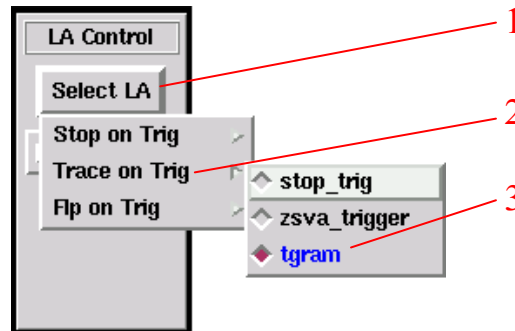

Figure 26: LA Control → Trace on Trig menu item
- When you select a trigger (Step 3 in Figure 26) the **Trace** panel pops up with Trace already enabled and `driverClk` set as the default clock. You have to stop Trace if you want to select another sampling clock.